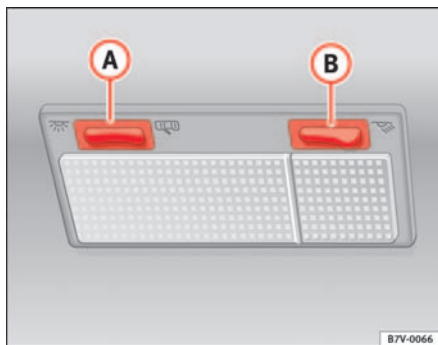

Fig. 75 Section of roof: front interior light and reading lights
The rocker switch ⇒ fig. 75 (A) of the interior lights has the following positions: permanent light ☞, door contact connection ☞ and fully off 0.
The reading light for the front passenger is switched on and off with the button ⇒ fig. 75 (B).